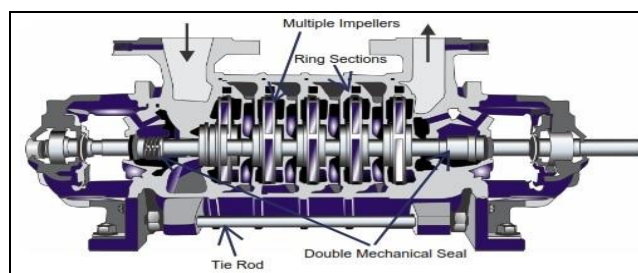

Fig. 12: Multistage centrifugal pump apparatus.
12.2 Calculate the overall efficiency of multistage centrifugal pump. The testing apparatus are shown in fig. 12.
acting reciprocating pump as shown in Fig.12.